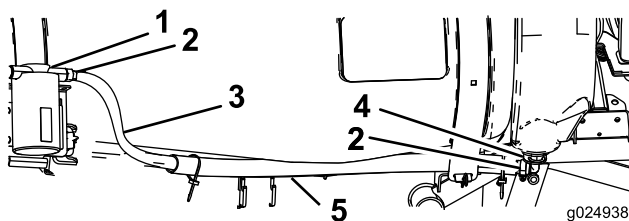

Figure 32
1. Route the rinse tank hose between the front tank strap and the side of the tank (Figure 32).
2. Attach the end of the hose to the lower hosebarb on the rinse pump with a hose clamp (Figure 32).